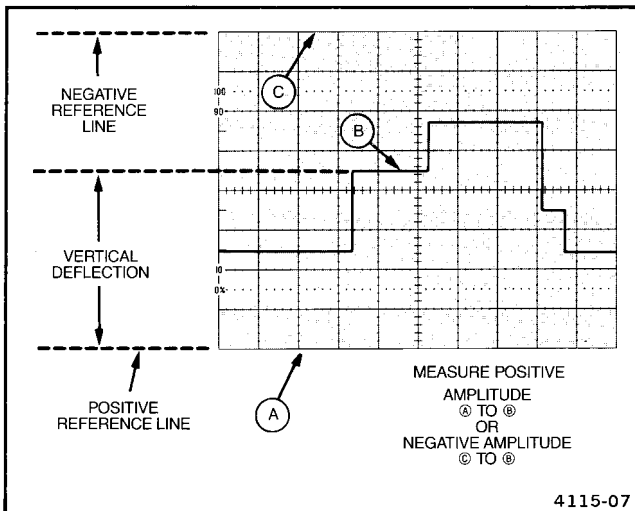

Figure 3-2. Instantaneous voltage measurement.
8. Measure the divisions of vertical deflection between the ground reference line and the point on the waveform at which the level is to be determined (see Figure 3-2).
EXAMPLE. In Figure 3-2, the measured vertical deflection from the reference line is 4.5 divisions, and the waveform point is above the reference line. A 10X attenuator probe is being used, and the VOLTS/DIV switch is set to 2 V (10X PROBE).